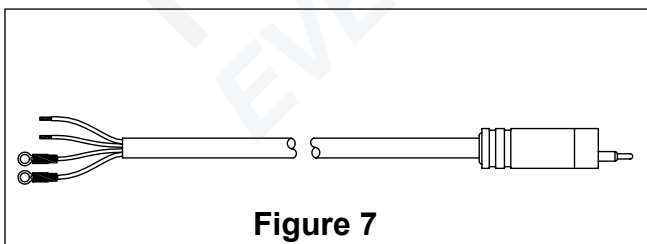
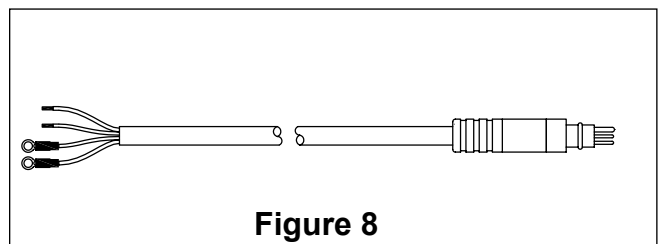

Figure 7
Figure 8
2. Connector cable assembly is available with Hi-Use (87) (*Fig. 7*) or Marsh Marine (88) (*Fig. 8*) connector.